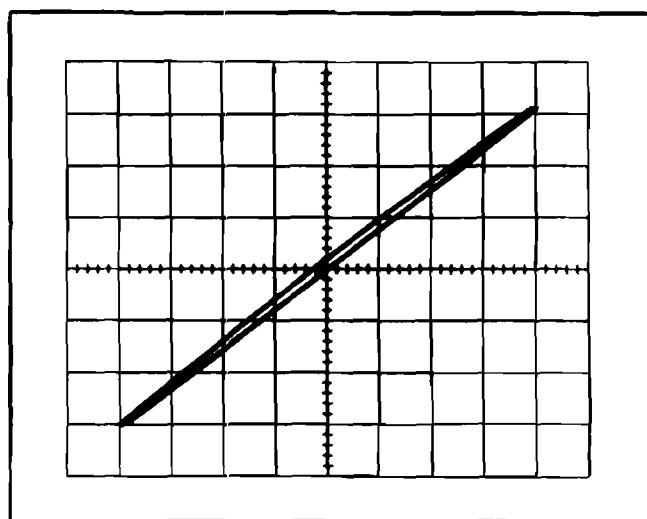
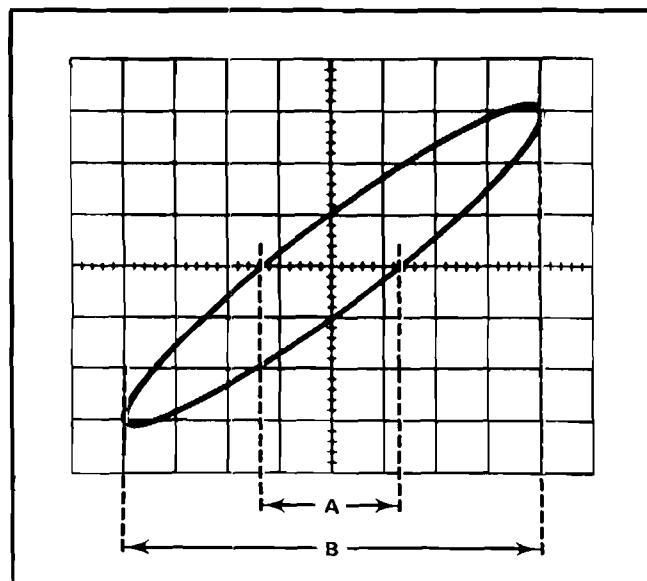

Fig. 2-16. X-4 display showing phase shift.
Fig. 2-17. Phase-difference measurement from an X-Y display.
3. Connect the same signal to both EXT VOLTS IN connectors. Use the Amplifier VARIABLE controls to obtain a display less than 8 divisions vertically and less than 10 divisions horizontally. Measure and record the inherent phase shift for the oscilloscope system being used. See Fig. 2-16.
5. Center the display in relation to the vertical graticule line. Measure the distances A and B as shown in Fig. 2-17. Distance A is the horizontal measurement between the two points where the trace crosses the center horizontal reference line. Distance B is the horizontal width of the display.
**Example.** The phase angle shown in Fig. 2-16 is approximately  $2^\circ$  and in Fig. 2-17 the phase angle is  $18^\circ$ .